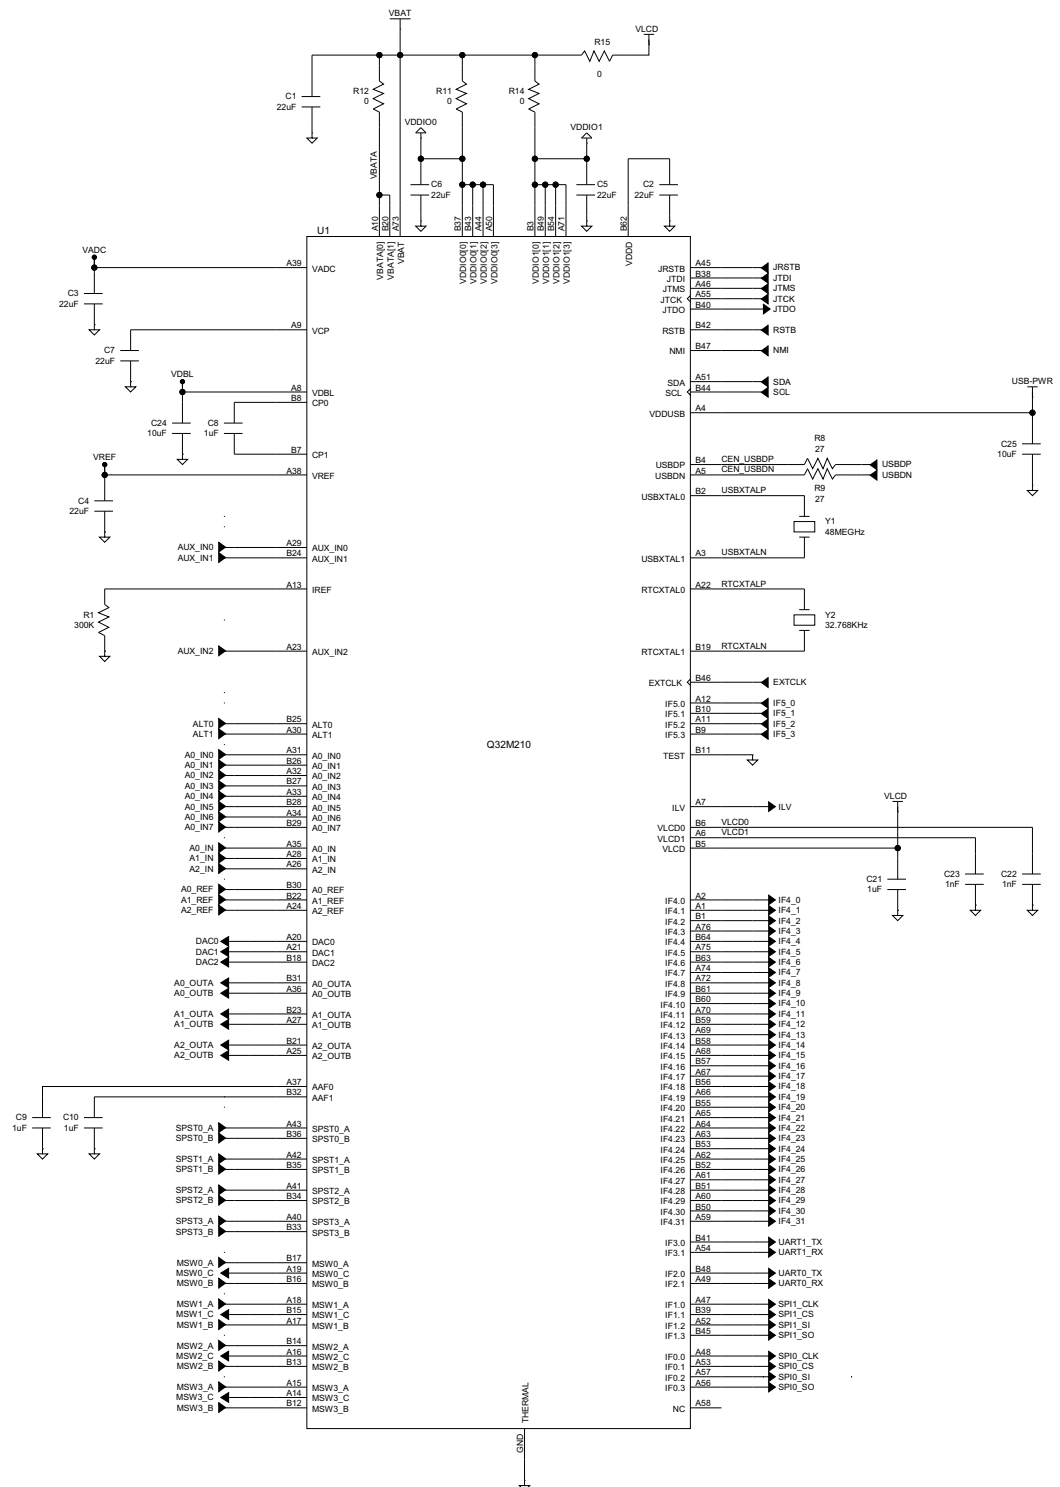

Figure 5: Q32M210 Microcontroller RPM Schematic
- Q32M210 microcontroller RPM schematic (Figure 5 on page 20)